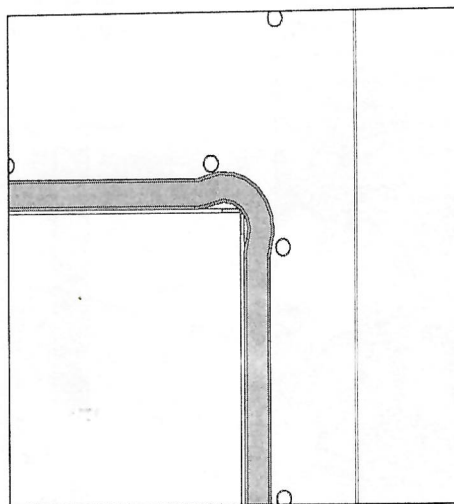

Figure 5: O-Ring Install
- a) Install the new O-Ring on the tank as per Figure 5 and remount the heat exchanger. Tighten the mounting nuts in a cross tightening pattern to 30 lb-in (3.4 Nm), maximum 50 lb-in (5.7 Nm).